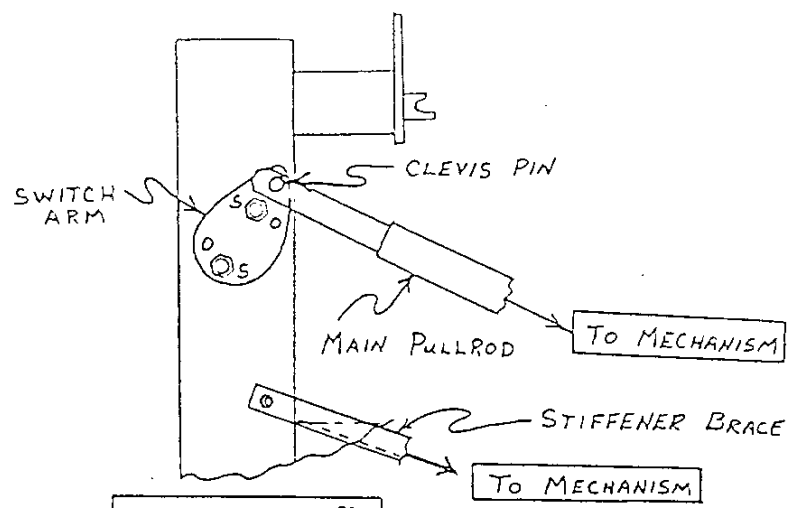

FIGURE 13
6. Disconnect pullrod assembly #2 (between mechanism and interrupter) from interrupter crank #1 by removing cotter key and clevis pin #3. DO NOT disconnect by removing bolts. Figure 13.
9. Adjust main pullrod assembly #2 until hole in pullrod lines up with hole in interrupter crank #1. Reconnect using clevis pin and cotter key. Figure 13. (NOTE: Clevis pin should be loose)
3. Disconnect main pullrod assembly #2 from interrupter crank #1 by removing cotter key and clevis pin #3. DO NOT disconnect by removing bolts. Figure 13.